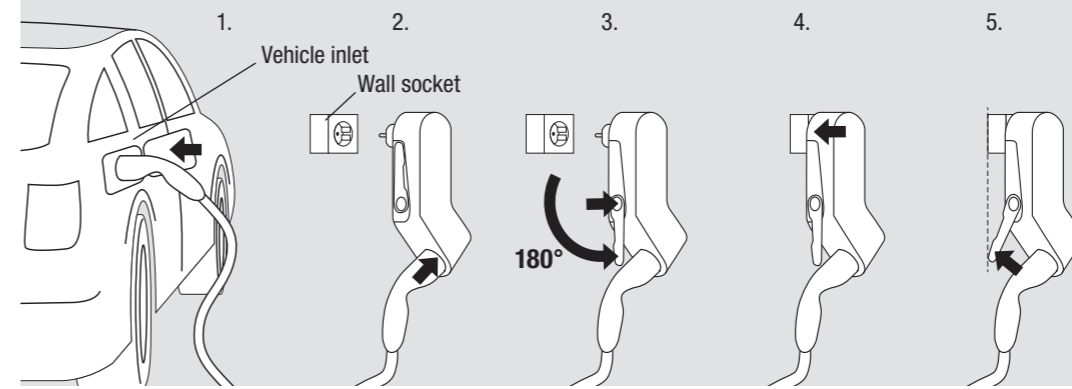

Fig. 2: Charging sequence
- Only operate the Mobility Dock vertically suspended and supported on a wall socket to avoid pulling on the wall socket (see fig. 2). Heavy loads can damage the Mobility Dock and/or the power socket.
- Do not plug the Mobility Dock into the socket until the charging plug is engaged in the type 2 outlet (C). Otherwise the wall socket may be damaged.
The Mobility Dock is a Mode 2 emergency charger for occasional, portable use. Permanent use only in a safe, motionless and vertical position. Operation only on mechanically and electrically suitable, wall-mounted sockets (see fig. 2, step 5)!